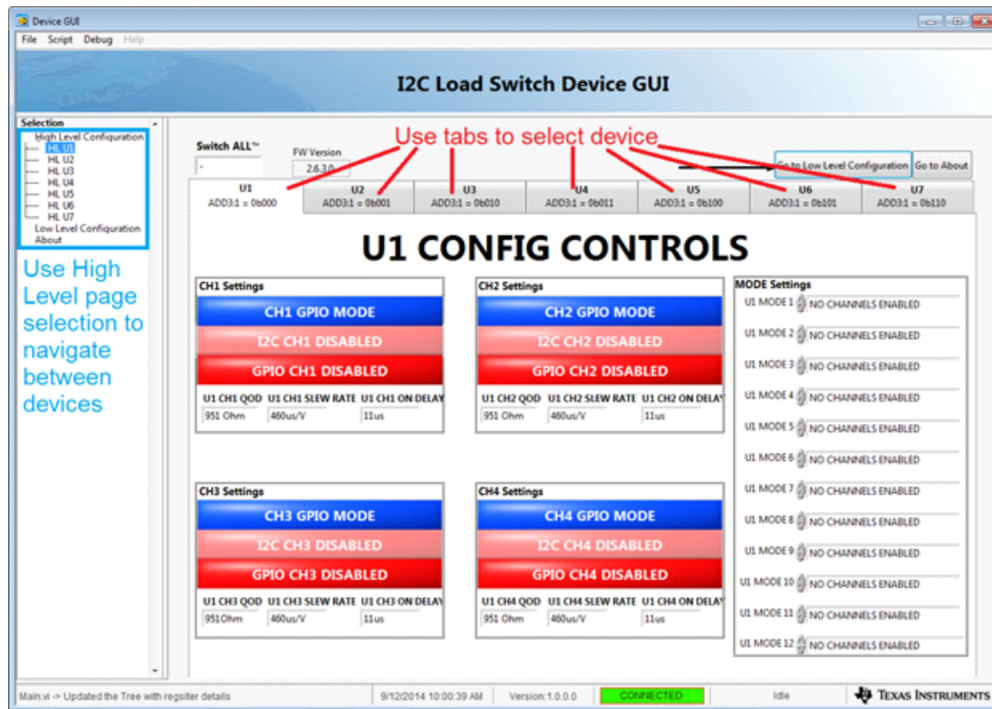

Figure 7. Ways to Select Device Control
- (A) You can navigate to the controls for U1 – U7 in two different ways.
- (B) The first way is by clicking the device tab (U1, U2, U3, etc.).
- (C) The second way is by clicking the high level functions on the left side of the screen, see Figure 7.
- (D) Be sure that the I²C address is properly configured using jumper points JP7, JP9, JP11, JP20, JP22, and JP23. The configured address should correspond to the address appearing on the specific device tab.